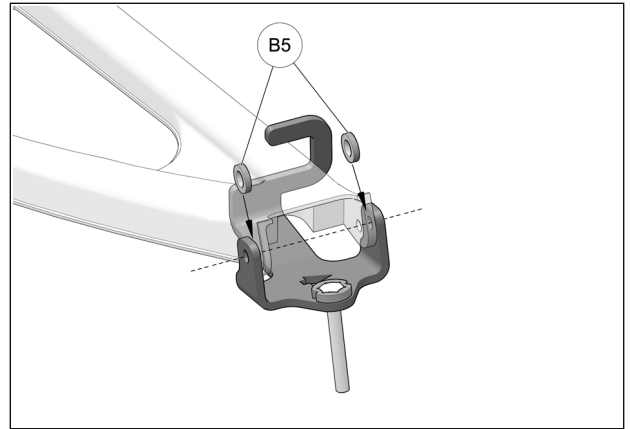

Fig. 8
8. Insert shims (B5) between anchor bracket and suspension arm and align all holes. See Fig. 8